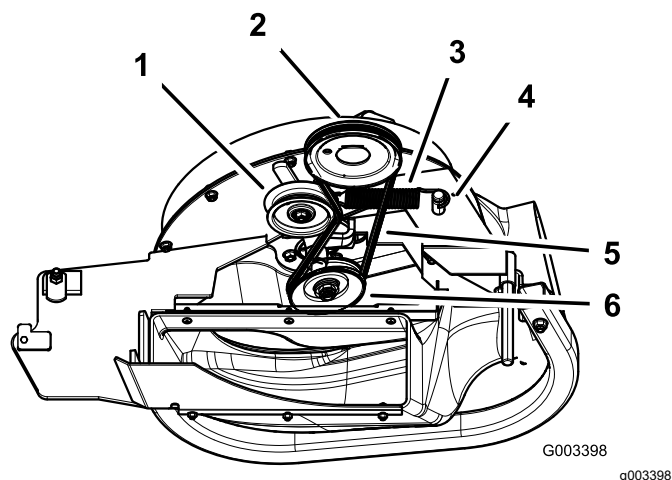

Figure 33
3. Pull back on the spring-loaded idler pulley to relieve the belt tension (Figure 33).
5. Install the new belt around the blower pulleys and the mower-deck pulley (Figure 33).
7. Pull back on the spring-loaded idler pulley and install the belt onto the spring-loaded idler pulley (Figure 33).